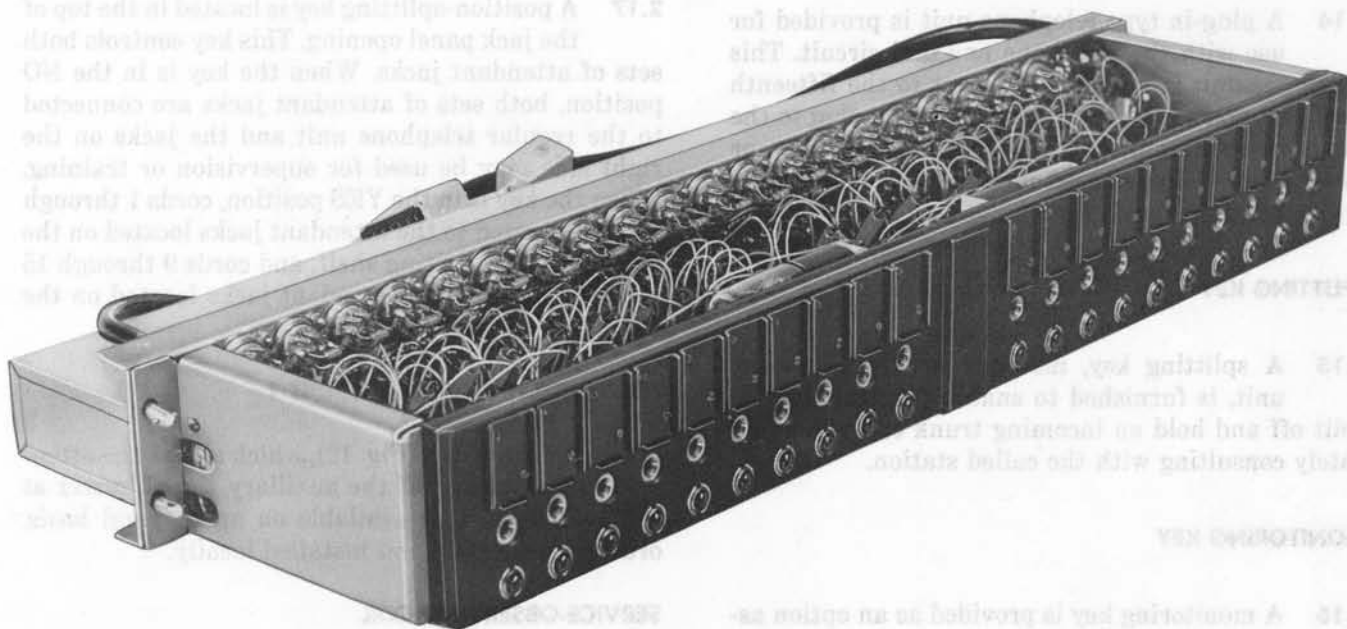

Fig. 3—J59023G-1 (MD) Electromechanical Secretarial Line Unit
2.06 The electromechanical secretarial line equipment is furnished in self-contained units of 20 line circuits per unit. ♦This electromechanical line equipment is rated (MD) and is replaced by the solid-state secretarial line (YW1) circuit pack.♦ A maximum of five secretarial line units can be mounted in one switchboard position. The ♦electromechanical♦ secretarial line unit (Fig. 3) is ordered separately and installed locally. Unequipped ♦electromechanical♦ secretarial line unit spaces in the face of the switchboard shall be covered with line unit blank P-34A583 ♦(comcode 813415833),♦ which is also ordered separately and installed locally. Each ♦electromechanical♦ secretarial line unit is 3 inches high and extends the full width of the switchboard jack panel opening. The ♦electromechanical♦ secretarial line units are installed and removed from the rear of the switchboard and connected to the outgoing terminal strip through a plug mounted on each